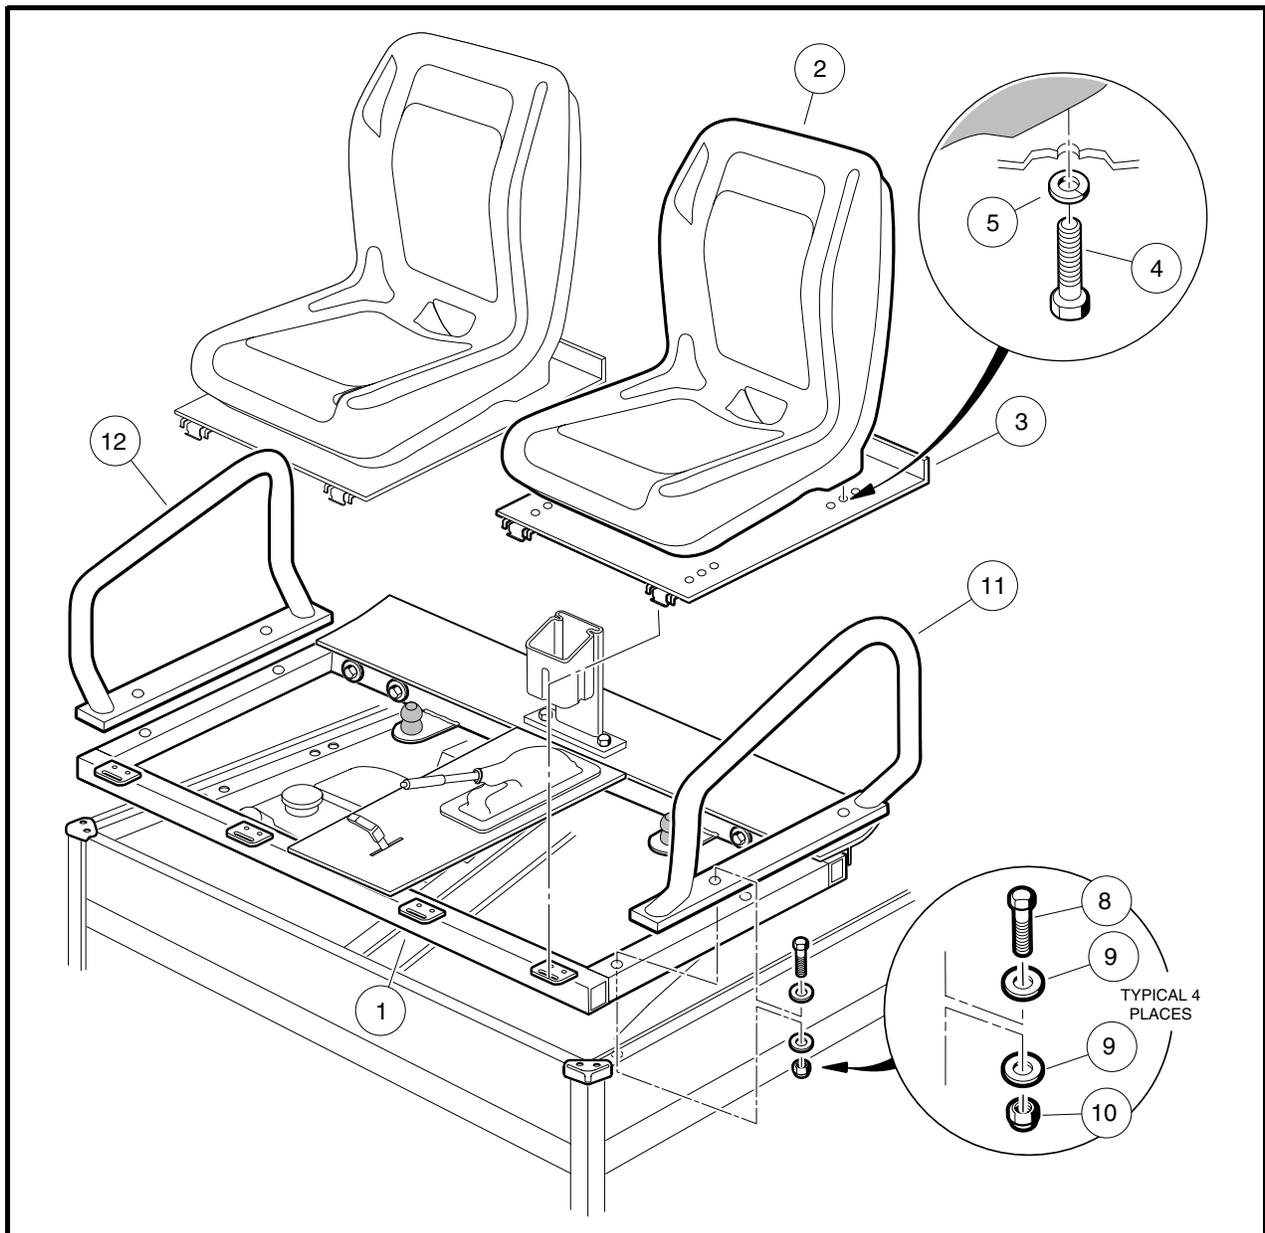

Figure 4-3 Front Seat Support
1. Remove seat (2) from vehicle.
2. Disassemble seat (2) from seat panel (3) by removing four bolts (4) and lock washers (5) (**Figure 4-3, Page 4-6**).
3. Adjust seat to preferred position. Align holes in seat panel (3) with holes in seat (2) and secure with four bolts (4) and lock washers (5). Tighten bolts to 96 in-lb (10.8 N·m).
1. Completely remove both front seats (2) from the vehicle (**Figure 4-3, Page 4-6**).